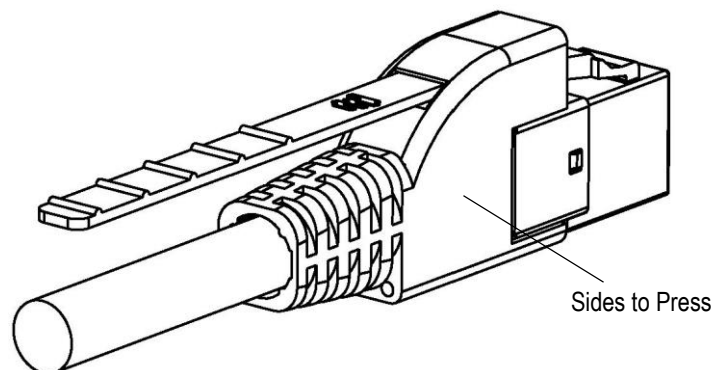

Figure 9
9. Slide strain relief over assembly until bottomed. Make sure the retention features of the strain relief are engaged into their respective holes by pressing on the side of the strain relief. See Figure 9.